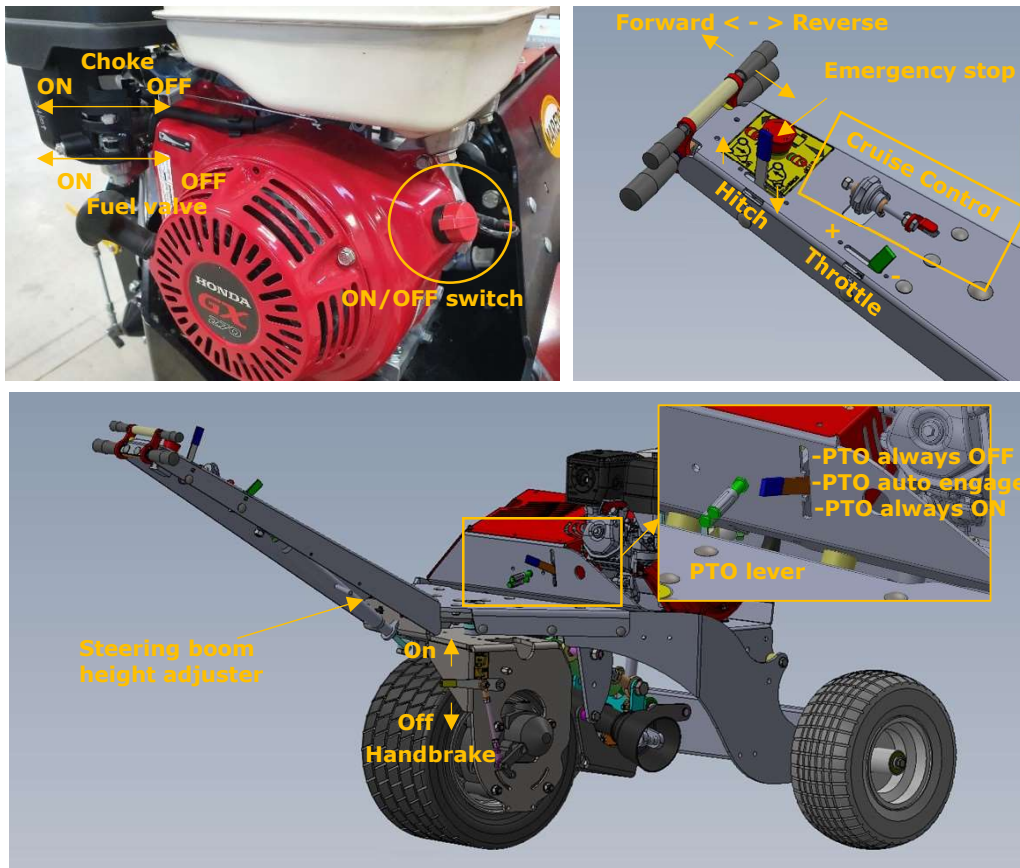

Figure 1: Engine and controls
5.1.2 Check if the engine oil level is correct. This can be checked by pulling out the grey oil level stick which is located on the front of the HONDA engine (see fig. 1). Oil level should be between the marks.
5.1.6 Check and open the fuel valve on the engine (see fig 1.)
5.1.7 Put the motor switch to 'ON' (see fig 1.) and check if the Emergency Stop on the handlebar is in its top position: ON
**9.1 Transport on an open trailer or open truck:** Always close fuel valve during transport (See figure 1).
**9.2 Transport in a closed trailer or closed van/truck:** Always close fuel valve during transport (See figure 1). Drain fuel system (see 8.2)